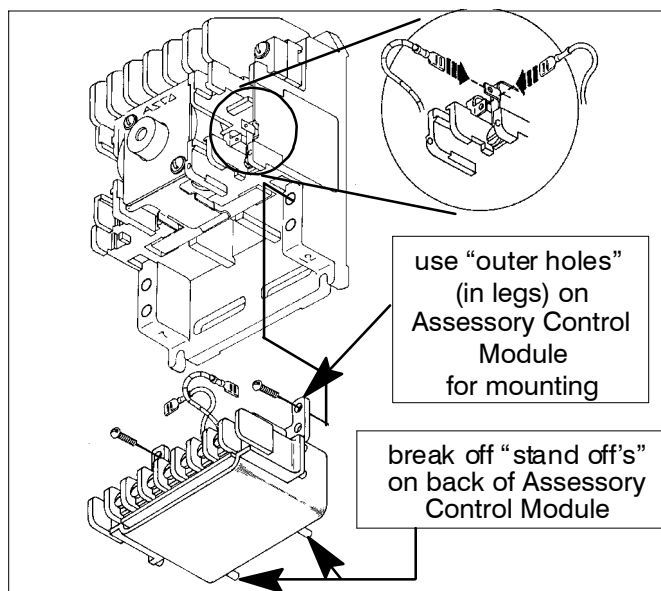

Figure 8. Control module – bottom mounted.
**Bottom Mounting.** For switches with up to 6 poles the module is mounted directly into the lower part of the switch with two short screws in the tabs. Remove the screws and remove the module. Install the new module (tabs up) and tighten the screws to 5 in-lbs maximum. See Figure 8.